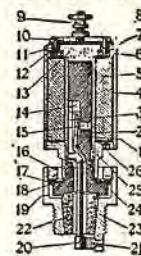

Fig. 50
The principal parts of the magnetic plug (Fig. 50) are: magnetic coil (5), pole-piece (2), interrupter